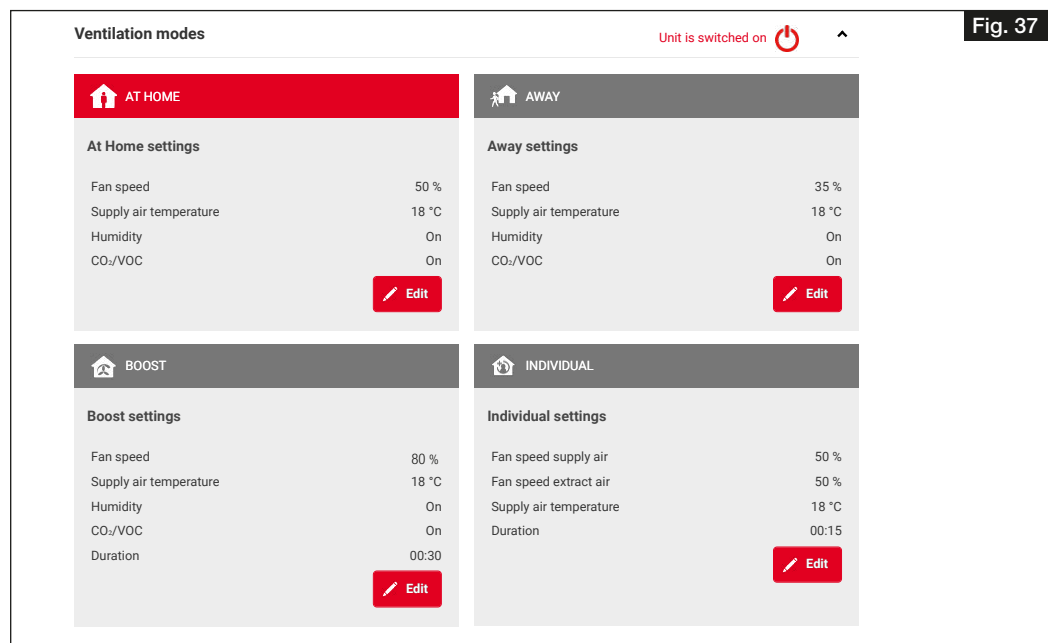

Fig. 37
- ① Ensure approx. 20 cm straight settling section up to the measuring connectors!
2. Enter the following values for the fan powers in the respective ventilation profile via the easyControls software or the control element KWL-BE Touch: **Away**: 30 % / **At home**: 50 % / **Boost**: 80 % (see Fig. 37).
- Enter the determined differential pressures from the supply and intake air measurement in the unit characteristic curve for supply air (chapter 6.4.3 “Characteristic curve” on page 21) according to the fan outputs saved in the ventilation profile (see Fig. 37).
- Enter the determined differential pressures from the extract and exhaust air measurement in the unit characteristic curve for extract air (chapter 6.4.3 “Characteristic curve” on page 21) according to the fan outputs saved in the ventilation profile (see Fig. 37).